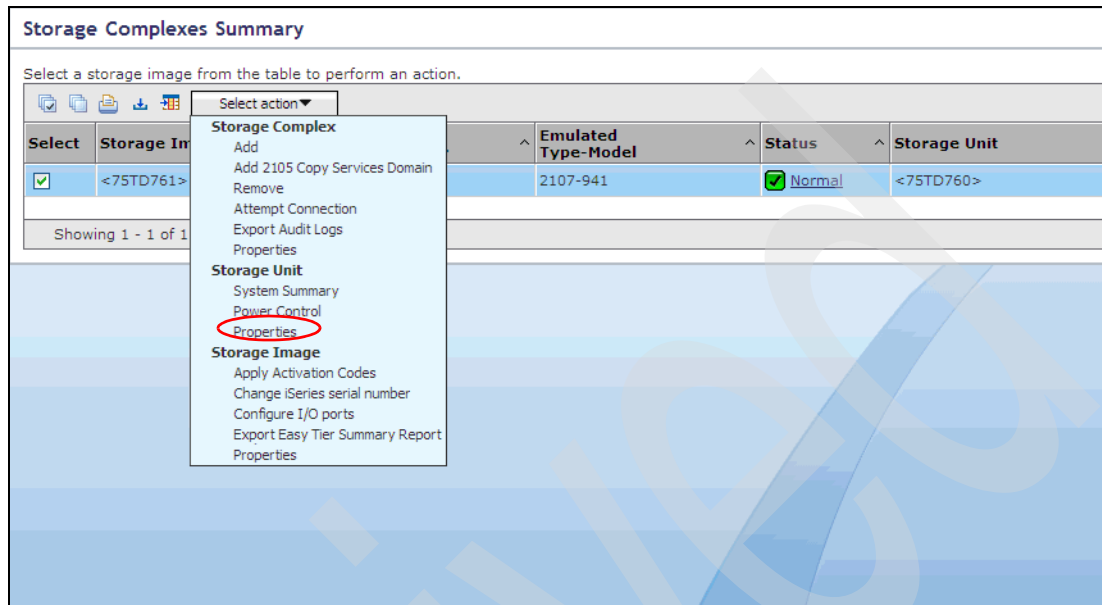

Figure 10-3 Select Storage Unit Properties
- In the Storage Complexes Summary window, select the storage image by checking the box to the left of it, and select **Properties** from the drop-down Select action menu in the Storage Unit section. (Figure 10-3).